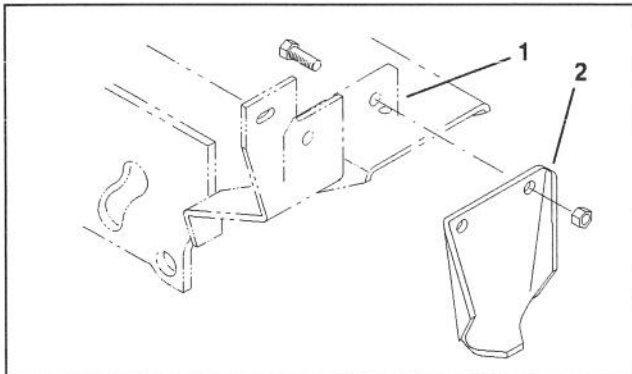

Figure 2
1. Mount an axle stop to each side of rear frame member with (2) 1/2 - 13 x 1-1/4" lg. capscrews and locknuts. Position stops as shown in fig. 2.